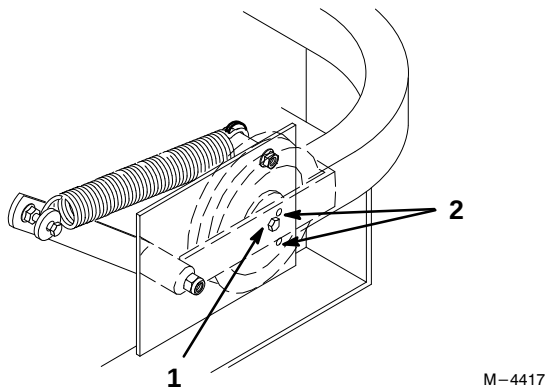

Figure 51
6. Check belt tension. The center bolt of spring loaded idler must be between the two alignment holes in left support plate (Fig 51).
Note: Check position of center bolt in Low Height of Cut. The center bolt must be at or below the top alignment hole. Check position of center bolt in a High Height of Cut. The center bolt must be at or above the lower adjustment hole (Fig 51).
8. Check belt tension again. The center bolt of spring loaded idler must be between the two alignment holes in left support plate (Fig 51). Adjust, if necessary, and tighten all hardware securely.